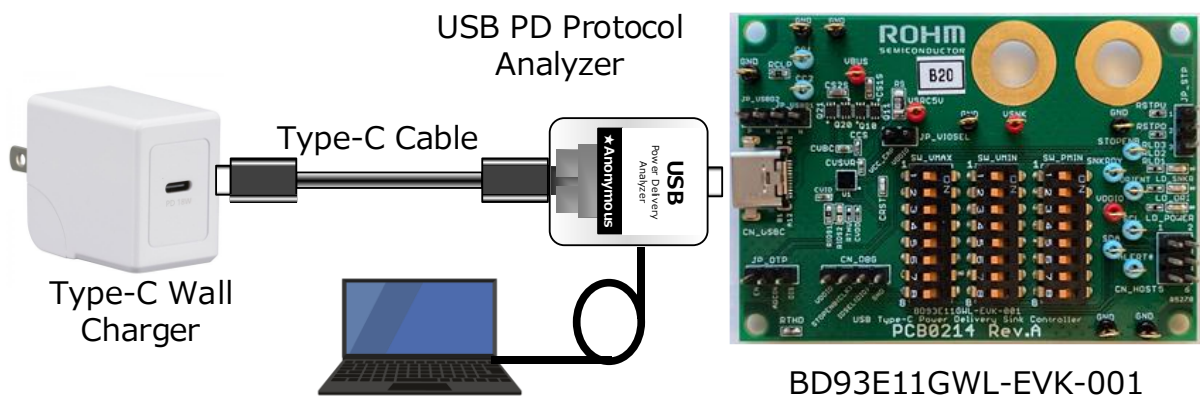

Figure 8. An example of the connection with a protocol analyzer for PD communication
1. Prepare any source device, e.g., Type-C/PD adapter, then connect to the Type-C receptacle on the EVK via a cable. Please insert a USB Type-C/PD protocol analyzer between the Source device and EVK if it is required to monitor the transaction on CC signals as shown in Figure 8.